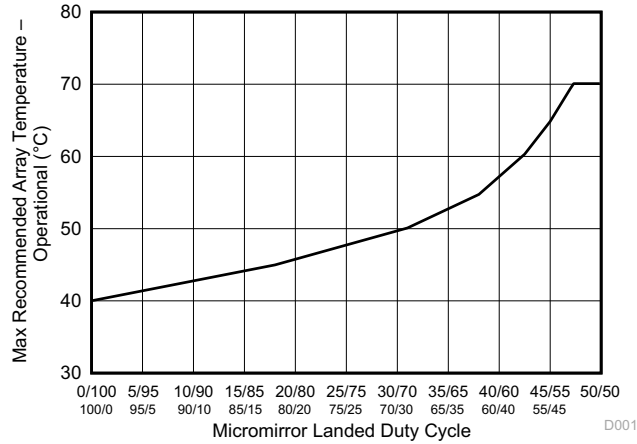

图 6-1. Max Recommended DMD Temperature—Derating Curve
- (12) Per 图 6-1, the maximum operational case temperature should be derated based on the micromirror landed duty cycle that the DMD experiences in the end application. Refer to 节 7.7 for a definition of micromirror landed duty cycle.